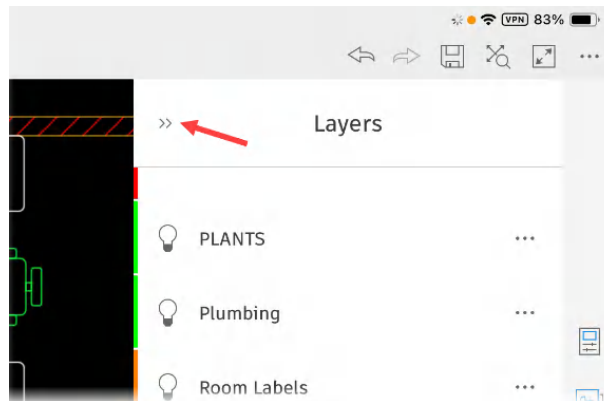

Figure 15.27: Using the double arrow to minimize the Layers panel
8. Click on the double arrow symbol in the layer list to minimize the **Layers** panel, as shown in *Figure 15.27*.